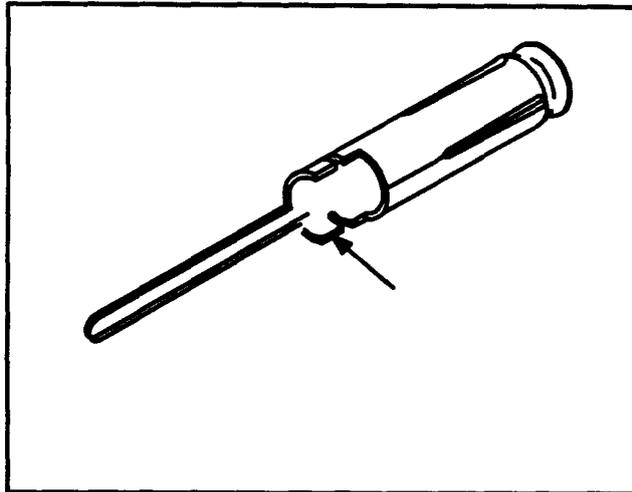

Figure 34. Tip or Ring Terminal
8.14 To replace a tip or ring terminal (Figure 34), proceed as follows: